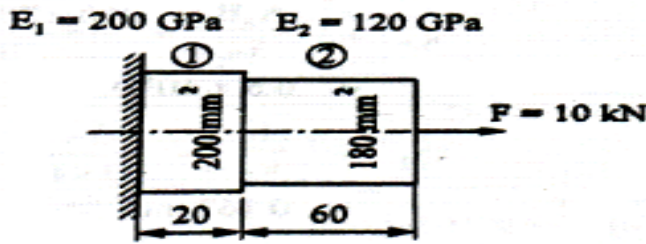

Fig. 1
- b) A stepped bar is made of two materials joined together as shown in Fig. 1. The bar is subjected to axial pull of 10kN. Determine the displacement and stresses in each of the section. [12]
Q11) Prepare the process sheet for the component as shown in fig. 1. It requires a batch of 1000 Nos. The process sheet must contain detailed manufacturing plan with operation sequence, Equipment, tooling, process parameters and sample calculation of operation time. [18]